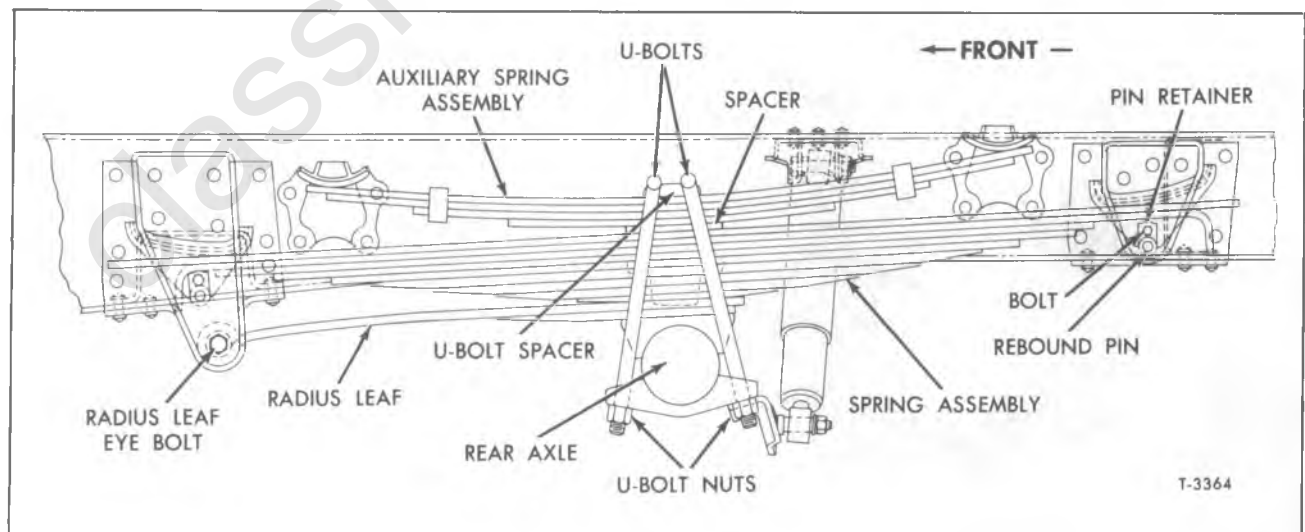

Figure 1—Rear Springs Installed (Series 40) (Typical)
Progressive type, two-stage rear springs, as used on all 40 Series (refer to figure 1), have a straight-ended main leaf which rests against the cam surface of the front and rear hangers. Cam action of the spring leaf produces a variable deflection rate as contact point changes under varying load. The second or third leaf has hooked ends which contact rebound pins in the spring hangers to prevent excessive fore and aft travel in event of radius leaf rod failure.
REAR SPRING REMOVAL (Figs. 1, 2, and 3)
4. On 40 Series (see figure 1), at the front and rear hanger, remove rebound pin retainer bolt, then remove retainer. Install suitable puller
(Refer to Figs. 1, 2, and 3)